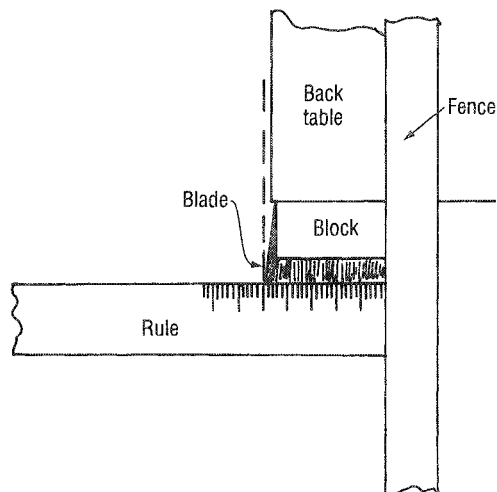

Fig. 3.39 Setting the fence for width of rebate.
2. Move the fence so that the distance from the edge of the blade to the fence is equal to the widest dimension of the rebate (**Fig. 3.39**). To assist in setting, a steel rule can be placed against the fence and then simply wind the fence in or out until the cutter point is on the correct measurement on the rule. Sometimes this operation is easier to do by replacing the steel rule with a square of plastic. The rule may be too narrow to butt up to the fence and still reach to the cutter. Mark the size of